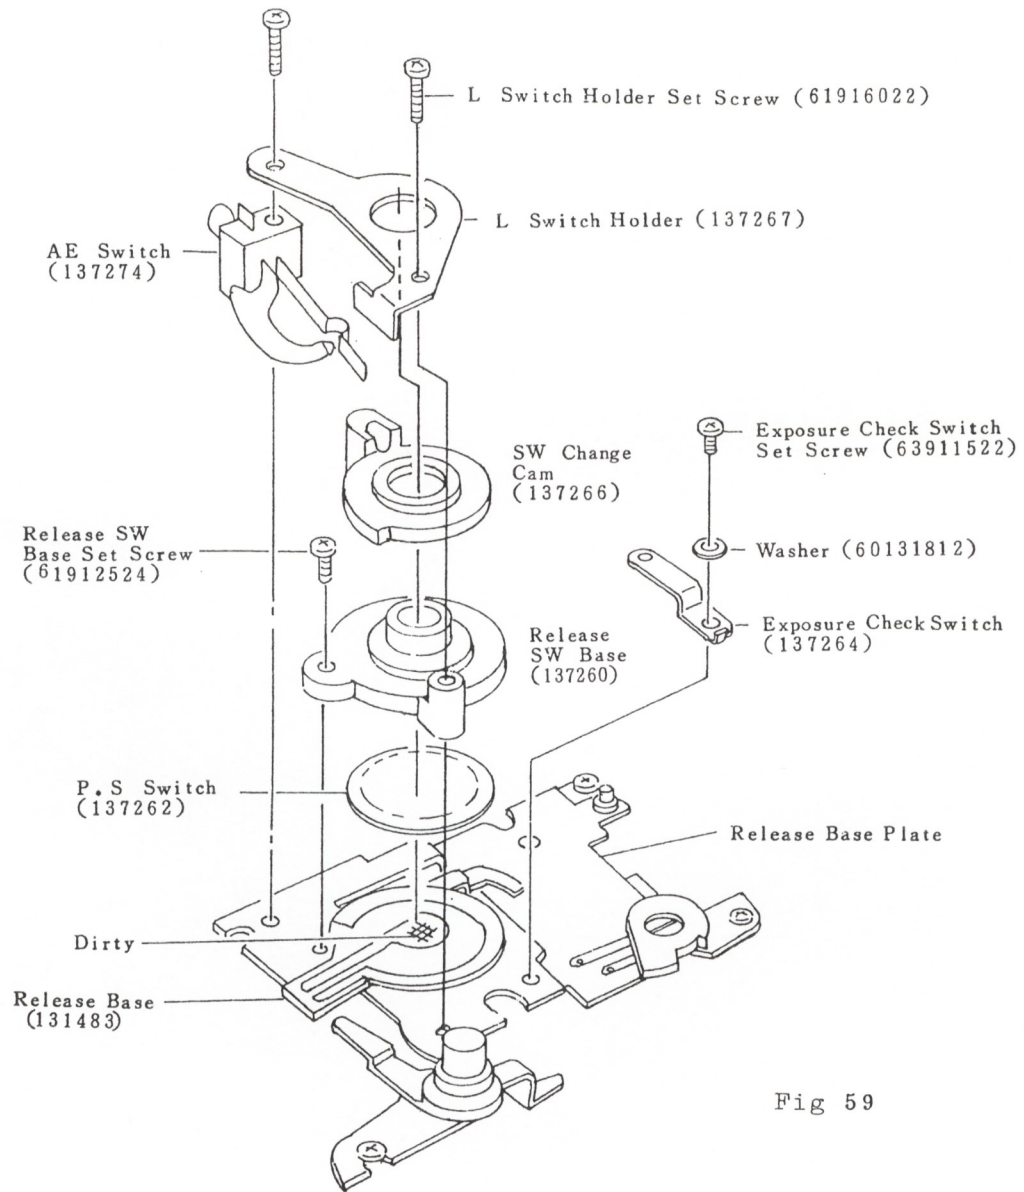

Fig 59
- (1) Release Base (131483) and P.S Switch (131509) is dirty.Clean the Release Base and P.S Switch, or replace them. (See Fig 59)